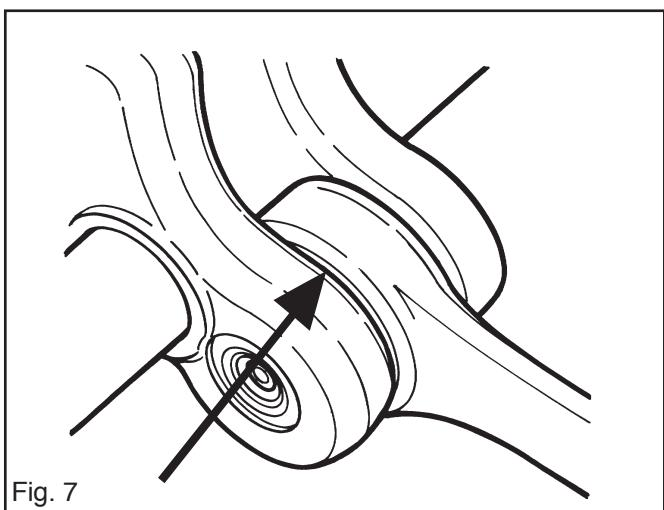

Fig. 7
2. The big end bearing does not have any score marks or discolouration on the sides. See fig. 7.